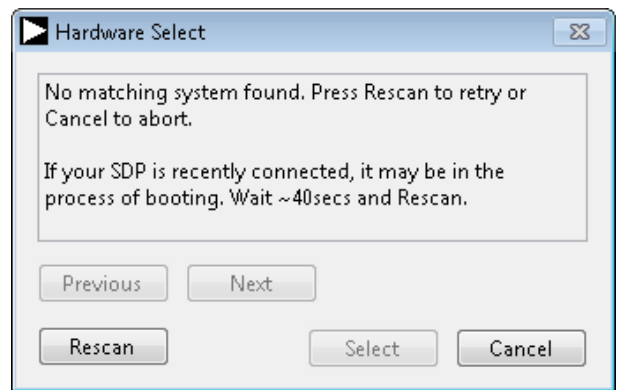

Figure 15. SDP-H1 Board Not Connected to the USB Port Error
2. The software automatically seeks to find the hardware connected; therefore, when no hardware is connected, it displays a connectivity error (see Figure 15) when the software is launched. Connect the evaluation board to the **SDP-H1** and connect the **SDP-H1** to the USB port of the PC, wait for a few seconds, click **Rescan**, and then follow the instructions.